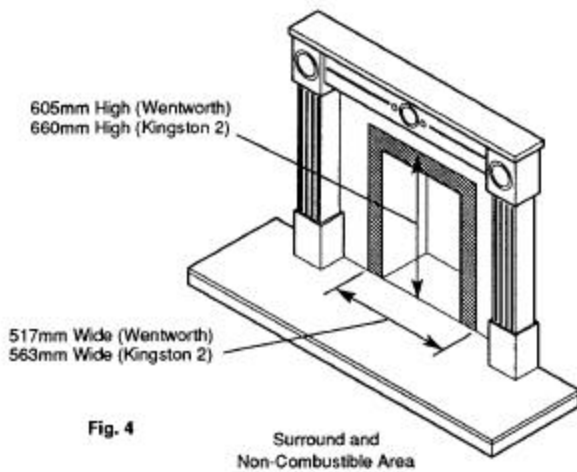

Fig. 4
3. The fireplace must have a flat vertical surface measuring 605mm (23 ¹³/₁₆in) high by 517mm (20 ¹/₈in) wide (Wentworth) or 660mm (26 in) high by 563mm (22 ⁵/₃₂ in) wide (Kingston 2), centrally placed about the opening. This allows an effective seal to be made between the wall and fire. **Also this area must be of non-combustible material.** If a fire surround is to be fitted its rear section must meet the same requirements. Any gaps between the wall and surround must be sealed (Fig. 4).